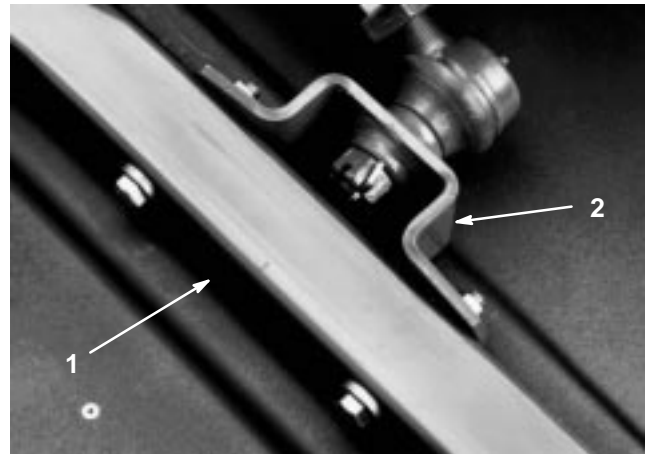

Figure 28
2. Remove the capscrews, flat washers, and locknuts securing the ball joint mounts to the castor arms on the cutting unit (Fig. 28).
4. Move the lift lever to the Float position. Push the lift arms down until the holes in the ball joint mounts line up with the holes in the castor arms (Fig. 28).
5. Secure the ball joint mounts to the castor arms with the capscrews, flat washers, and flange nuts. Position the flat washers to the outside of the castor arm (Fig. 28).